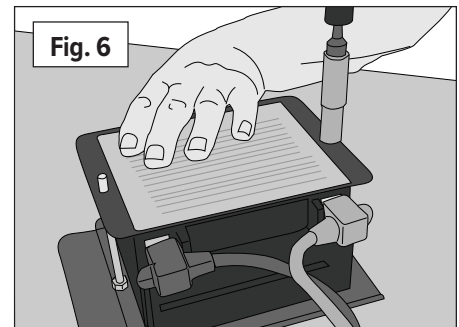

Fig. 6
13. **(Fig. 6)** Use the 7/16" wrench or socket to loosen and remove the two nuts holding the current battery tie-down bracket in place.